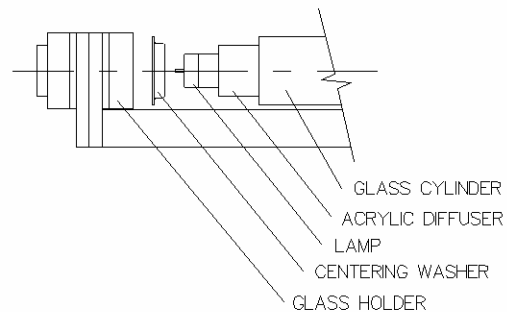

FIG. 3
5. Slide acrylic diffuser through glass cylinder and the fluorescent tube through the diffuser. Place a centering washer over each end of the tube so that it fits inside the glass cylinder. (Figure 3)